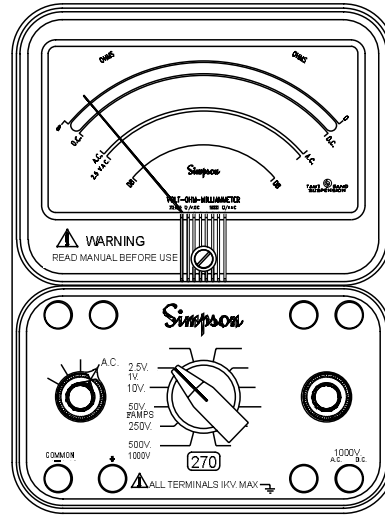

Figure 4-3. Jacks and Switch Positions for measuring AC Voltages
- a. Set the function switch at AC (Figure 4-3).